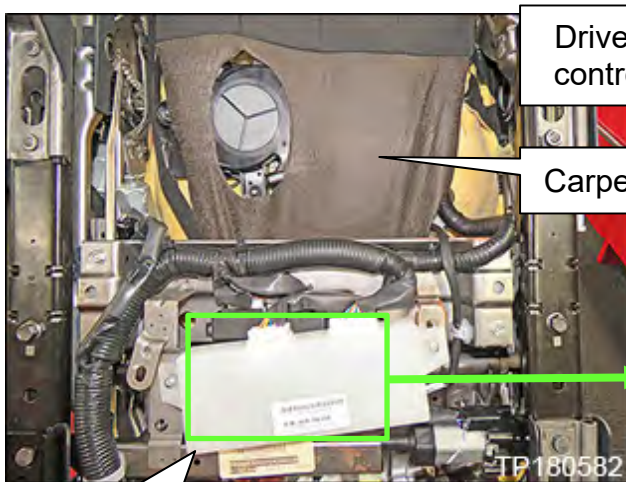

Figure 8
- The carpet strap clip is behind the driver seat control unit in Figure 8.